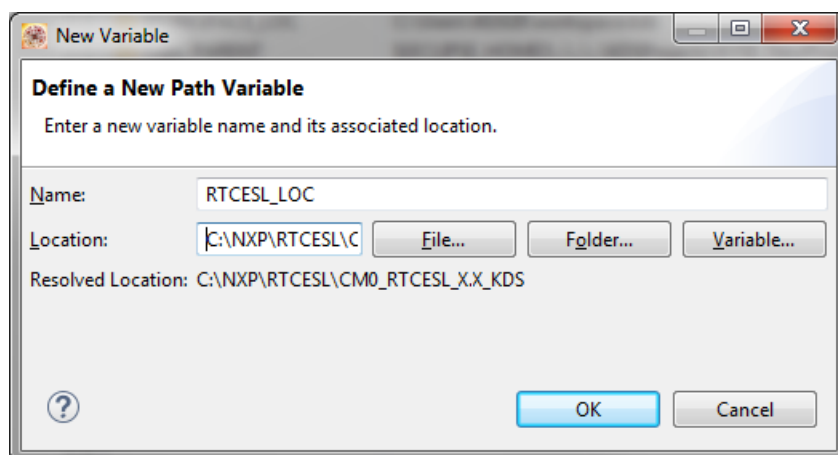

Figure 1-15. New variable
4. In the dialog that appears (see Figure 1-15), type this variable name into the Name box: RTCESL_LOC.